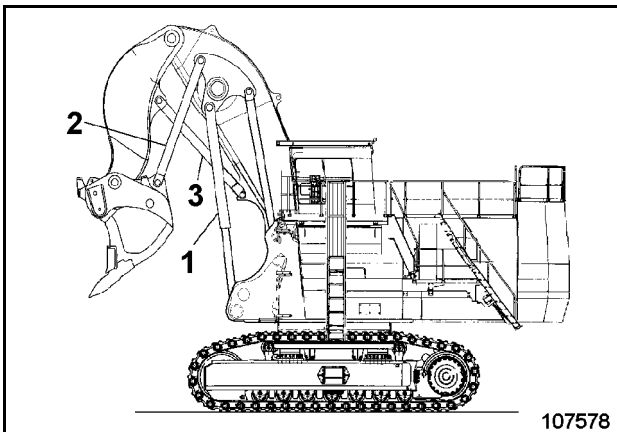
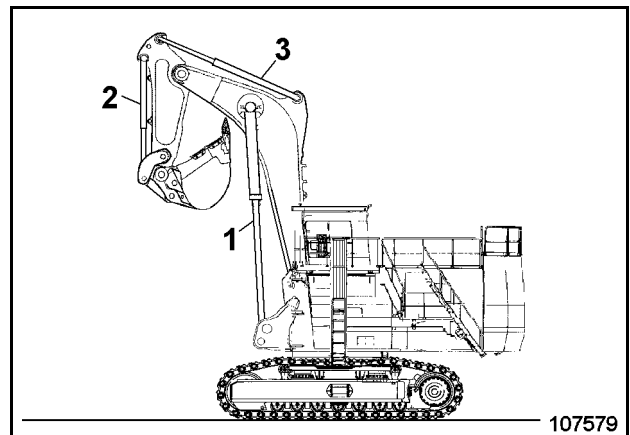

Fig. 2-102:
Fig. 2-103:
Keep the loading or the backhoe bucket close to the ground. For a more uniform loading of the tracks, the equipment must, however, be kept at a steep angle (Fig. 2-102: / Fig. 2-103:).
Loading bucket equipment (Fig. 2-102:):
- Fully extend boom cylinder (1).
- Extend bucket cylinder (2).
- Extend stick cylinder (3).
- Retract bucket cylinder 2 and stick cylinder (3) to such an extent as to reach the position of the equipment (Fig. 2-102:).
Backhoe bucket equipment (Fig. 2-103:)
- Extend backhoe cylinder 2 and stick cylinder (3) to such an extent as to reach the position of the equipment shown in (Fig. 2-103:).